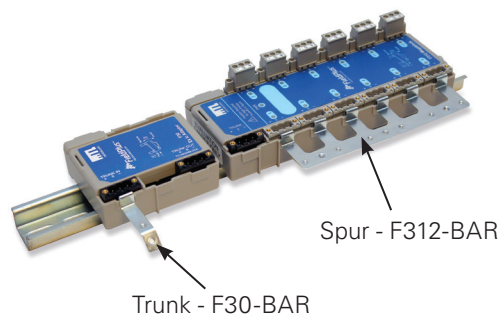

Figure 4.7- Typical grounding bars
2. Locate the grounding bar lug in the moulded position on the side of the F30 and press it firmly into place- see Figure 4.7.